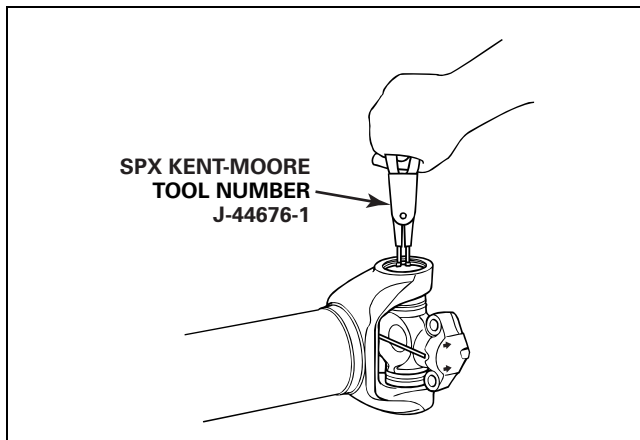

Figure 4.4
1. Use snap ring pliers (SPX Kent-Moore tool number J-44676-1) to remove the snap rings. Figure 4.4.